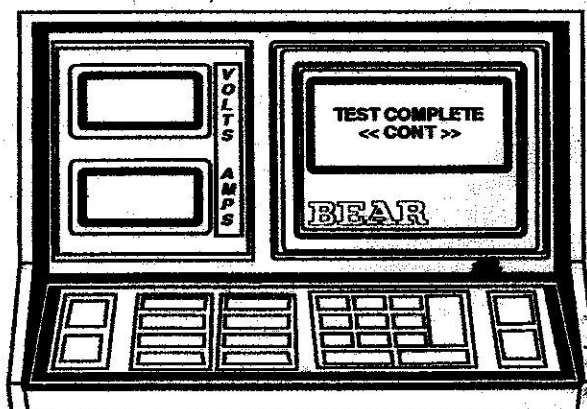

Figure 12
- D. When test is complete, display reads "TEST COMPLETE" or "TEST INCOMPLETE" (see Figure 12). Stop cranking the engine. To see test results, press [CONTINUE].